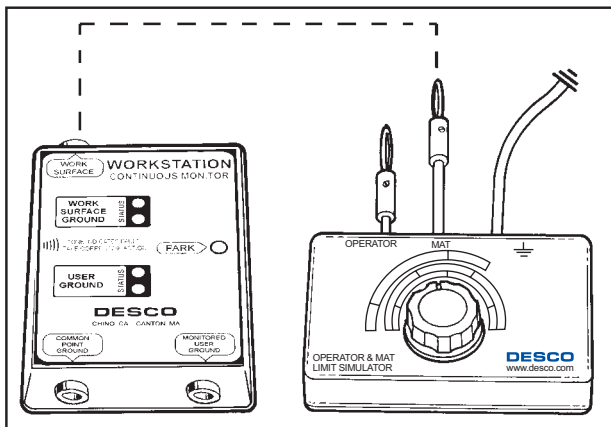

Figure 3. Testing 19225 work surface PASS AND FAIL.
**Step 2:** Insert the calibration unit's banana plug marked "Mat" into the jack marked "Work Surface" on the 19225. See figure 3.